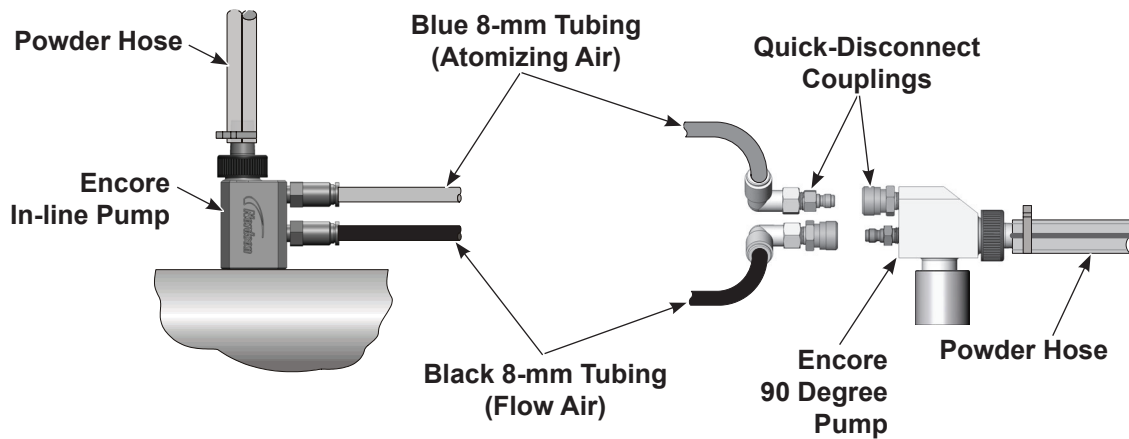

Figure 3-9 Pump Connections
3. See Figure 3-9. Connect the air tubing to the pump fittings.